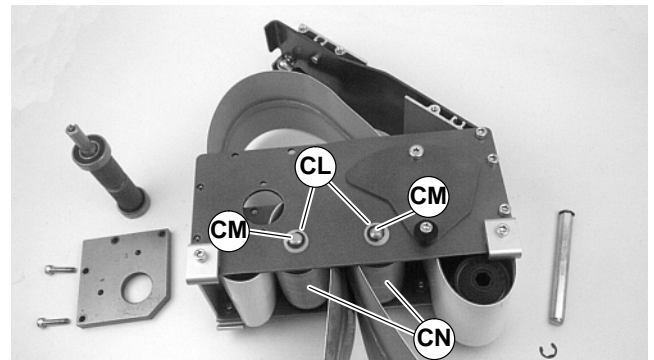

Figure 37
- For 2” (44 mm), 3” (70 mm) or 4” (95 mm) wide conveyor, detach E-ring clips and remove washers (CL of Figure 37). Remove pulley shafts (CM) and pulleys (CN).